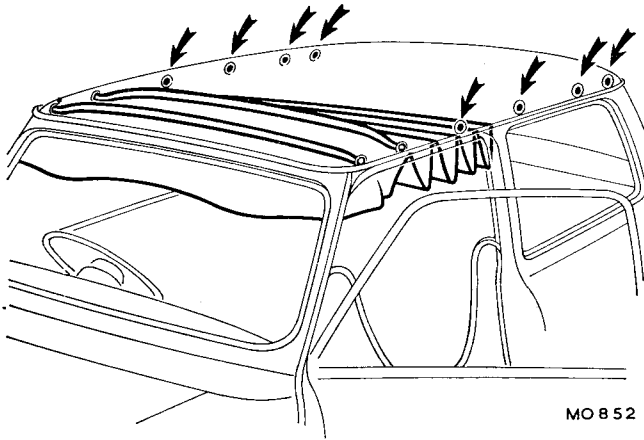

Fig. Rb.9
- (11) Layout the lining and apply a 4 in. (100 mm.) wide strip of Dunlop adhesive (S914 or S1022) around the edge of the lining.
- (12) Apply the above adhesive to the roof cant rails and to all exterior aperture flanges to which the lining is to be secured.
- (13) Start at the front and engage the liner support rails into the plastic locators in the roof cant rails (see Fig. Rb.9).
- (14) Stretch out the lining front to rear and keeping the lining taut, commence sticking the lining to the front and rear screen aperture flanges and then simultaneously to both roof cant rails.
- (15) Continue cutting and sticking the lining to the door and quarter light exterior flanges and trim off excess material as required.
- (16) Use adhesive when refitting the door seals. The remainder is a reversal of the removing procedure.
- (17) Water test the front screen, back-light, and the rear quarter-light ventilators.